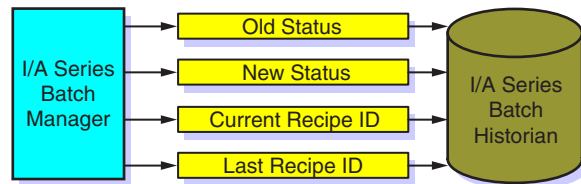

Figure 6. Equipment History
- Equipment events occur each time the status of a piece of equipment changes, and the Batch Manager captures and logs the change to the Batch Historian (refer to Figure 6). All these events are stored with the old status, new status, current recipe ID, and last recipe ID.